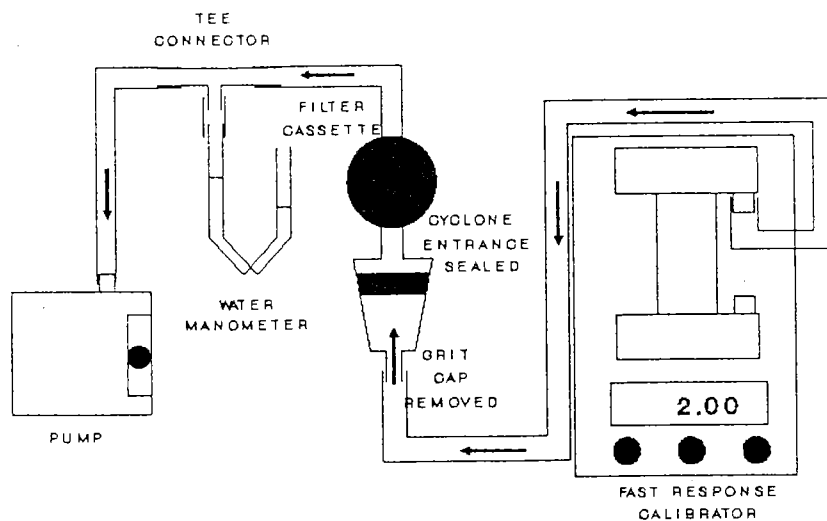

Figure 3. - Schematic showing fast response calibrator setup.
1. Connect the pump to the calibrator according to manufacturer's instructions provided with the calibrator and as shown in Figure 3.